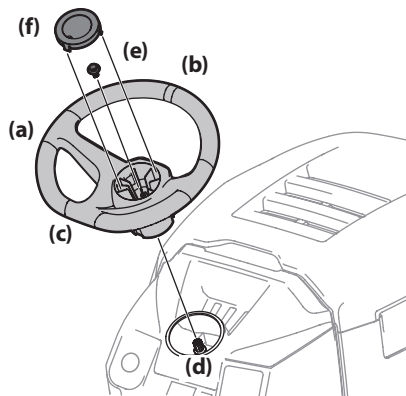

Figure 9
1. With the wheels of the tractor pointing straight forward, align the steering wheel (a) by using the center-line (b) on the front of the steering wheel (a) pointing straight ahead and the flat section (c) of the steering wheel (a) facing toward the seat, place the steering wheel (a) over the steering shaft (d). See Figure 9.